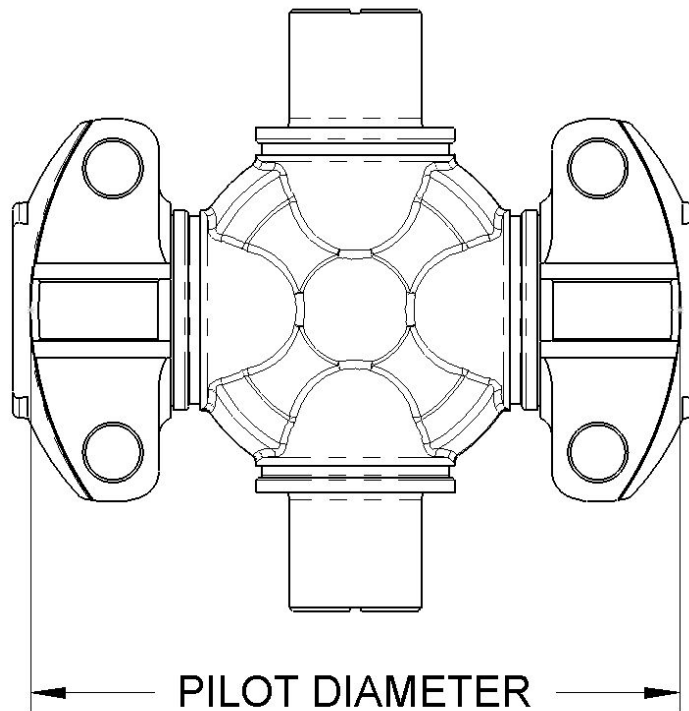

Figure 4
The “series” classifies the size of the universal joint. Wing bearing sizes are based on the “pilot diameter”, keyway width, and the diameter and distance between the holes. The pilot diameter is illustrated in Figure 4. Identify the joint by measuring the pilot diameter and then determine the series from Table 1 on the following page.
There are three major styles of round bearing caps: Inside snap ring (ISR), outside snap ring (OSR), and bearing plate (BP). The three round bearing style caps are illustrated in Figure 4.